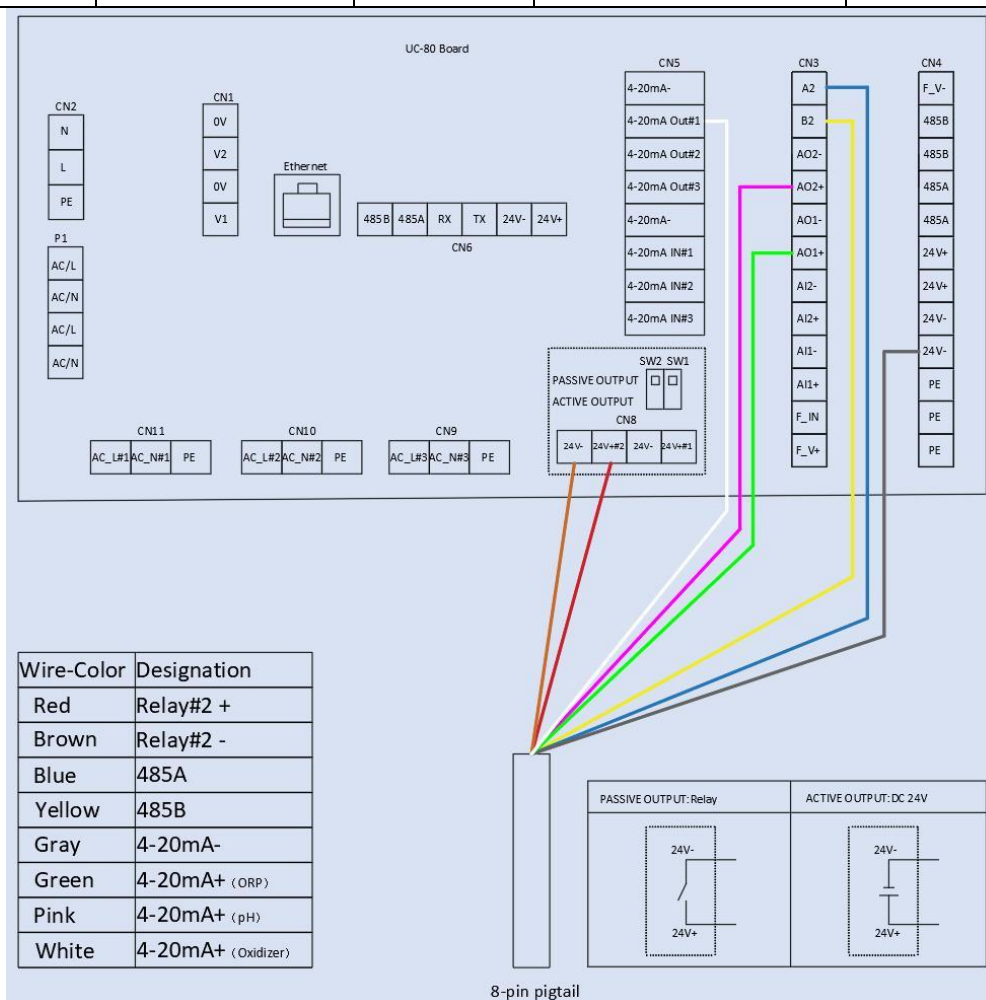

Figure. 6 - Pre-Landed Output Flying Lead Cable Wiring Diagram
The output pigtail offers a female adapter. This pigtail cable is designed to be connected to the loose flying lead cable with male adapter and open wires that is provided with the panel. This 8-pin output enables 3x 4-20mA signal passthrough, 1x RS-485 and 1x Relay (Default is Active Output 24Watt, can be changed to Passive Output) output to pass onto another device. The loose flying lead cable can be rapidly connected directly to the equipment in the field. Wire labeling and color code can be found in the table in the lower left corner of Figure 6 seen below, or rewired to the equipment according to the wiring diagram shown in Figure 4 **based on the serial # range provided below of heritage units that DO NOT contain the analog PID control relay.**
When Flow Control Mode (C) is selected, a user defined flow rate setpoint must be entered (Figures 6 & 7). The FS-100 will automatically control the regulating valve according to the preset flow rate with an internally calculated PID algorithm.